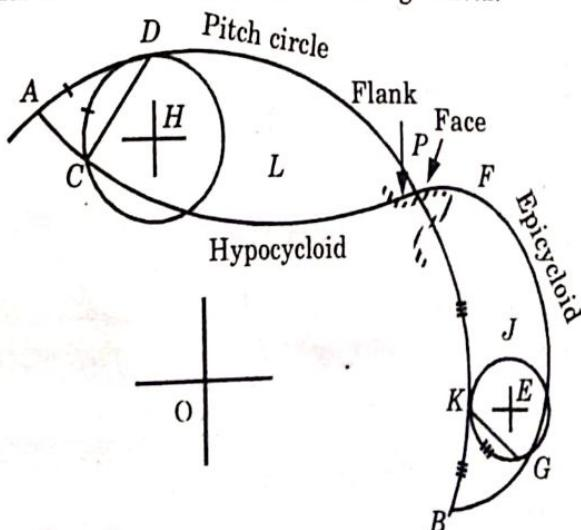

Fig. 2.17.1.
4. A cycloidal tooth is formed as shown in Fig. 2.17.1.